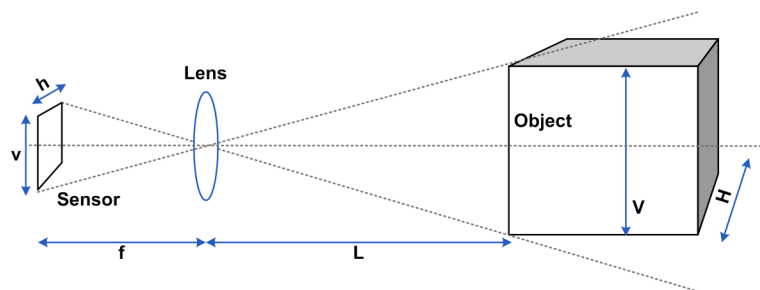

Figure 9: Field of View calculation
Normally, the AOV is calculated based on the known focal length and sensor size. This in turn determines the FOV, based on the distance (L) to the object being captured. Figure 9 illustrates how the FOV is calculated.